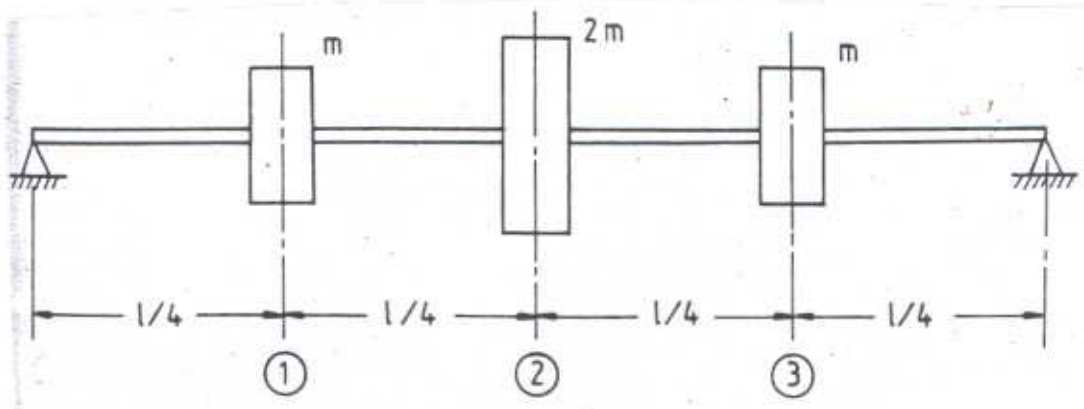

FIG. 5
b) Consider the system given in fig. 5. Determine the lowest natural frequency in transverse vibration using Dunkerley's method. The expressions for the influence coefficients are given below